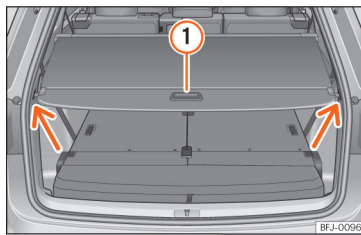

Fig. 152 In the boot: shelf of the boot closed.
- Pull the cover backwards with the handle **»» Fig. 152 ①** and remove it above the anchor point (arrows). Move the cover forward carefully.